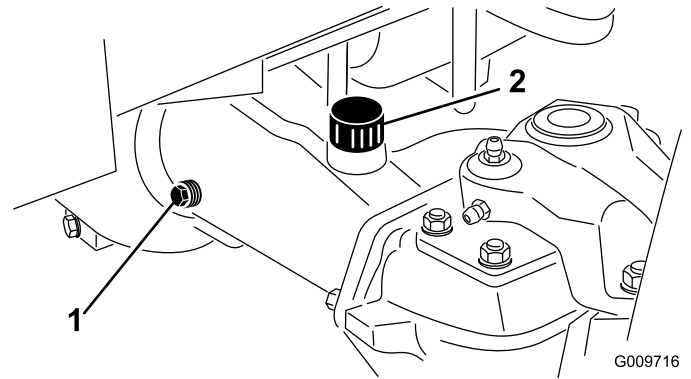

Figure 69
2. Remove a check plug from one end of the axle (Figure 69) and make sure that the lubricant is up to the bottom of the hole. If the level is low, remove the fill plug (Figure 69) and add enough lubricant to bring the level up to the bottom of the check plug holes.